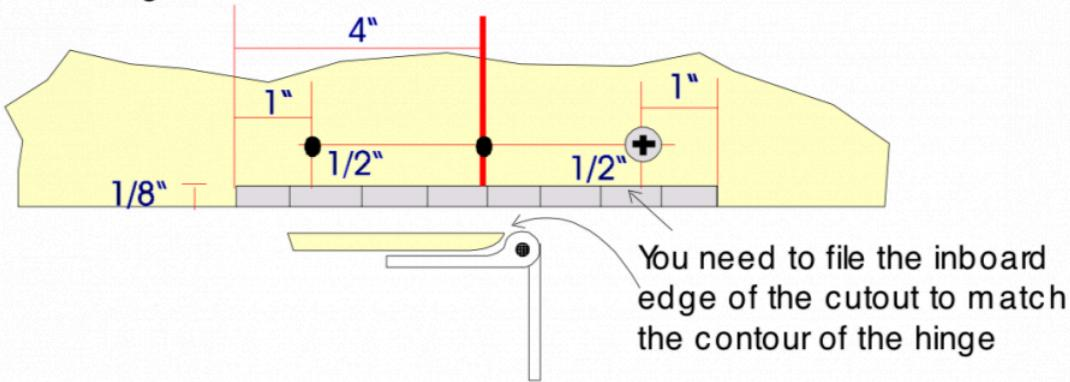

Figure 2-47. Trailing Edge of Aileron Well
____ Predrill (2) 1/8" mounting holes in the wing at each 6" hinge location , and (3) 1/8" holes in the wing at each 8" hinge location. Refer to Figure 2-47 for spacing.